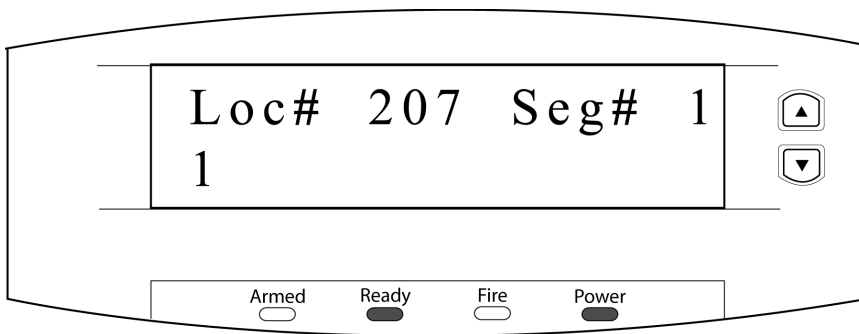

Figure 6: Alarm Panel - Location 207
1. Enter the location for the Serial Port Selector, which is **2** **0** **7**, followed by the **#** key. Location 207 will appear in the LCD. Select the **1** key to enable the NetworX NX584 protocol (see Figure 6).